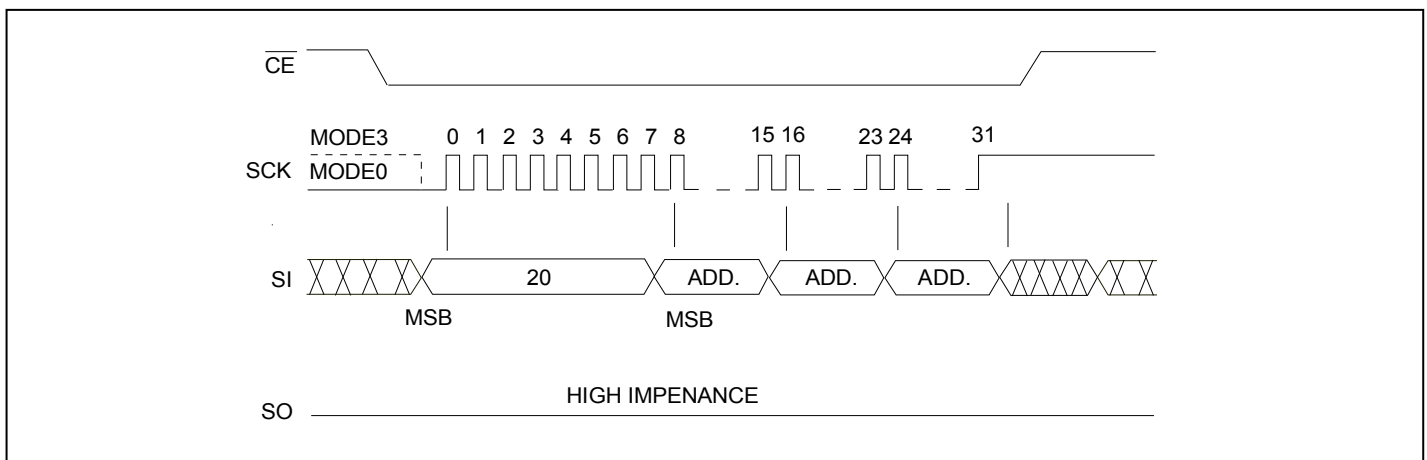

**Figure 8: 64K-byte Block Erase Sequence**
-A0]. Address bits [AMS-A16] (AMS = Most Significant address) are used to determine the block address (BAX), remaining address bits can be VIL or VIH.  $\overline{CE}$  must be driven high before the instruction is executed. The user may poll the Busy bit in the Software Status Register or wait TBE for the completion of the internal self-timed Block Erase cycle. See Figure 8 for the Block Erase sequence.